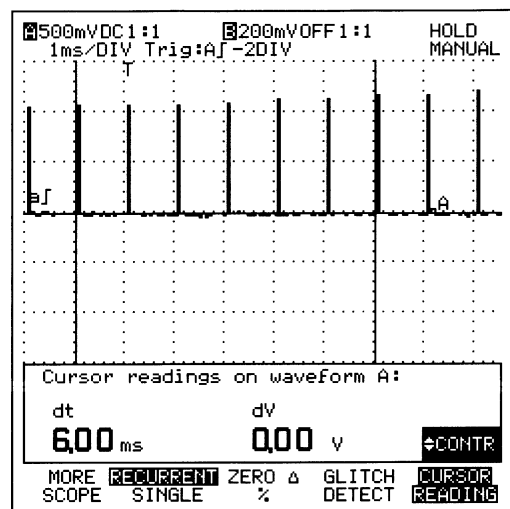

Figure 4.11 Cursor lines on marker pulses
- G Position the cursor lines with the LEFT CURSOR and the RIGHT CURSOR key, so that the vertical cursor lines cover a distance of six time marker intervals. See figure 4.11.